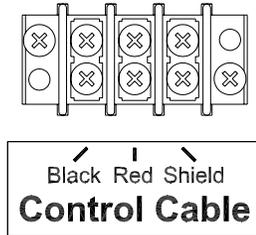

Figure 19 Control Cable Wiring Diagram
3. Connect the control cable to terminal block labeled **Control Cable** on the junction chassis according to figure 19.